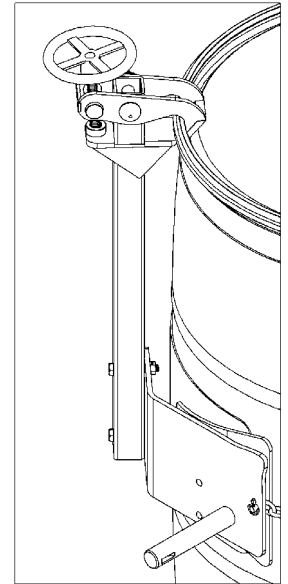

Figure 2.2
- To handle a 55-gallon (210 liter) plastic drum with suitable top rim, you **must** install either the Bracket Assembly or the Top Rim Clamp (Part # 4560-P) (see figure 2.2). You can use the Top Rim Clamp to handle a 55-gallon plastic, steel or fiber drum with suitable top rim.